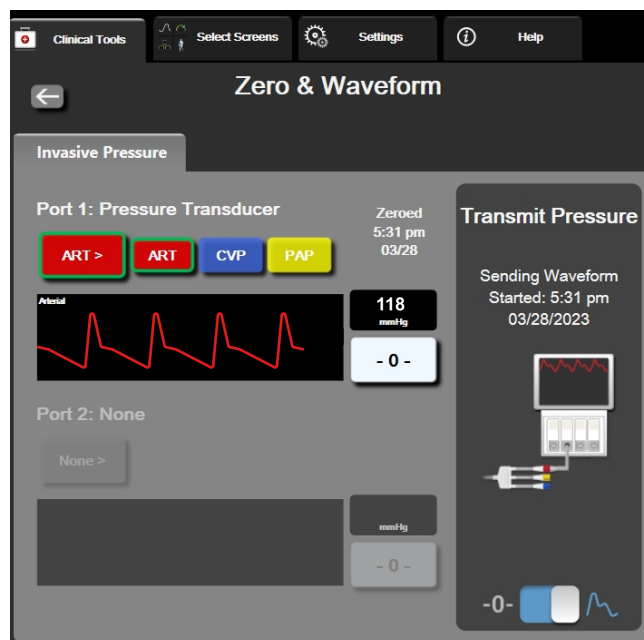

Figure 10-2: Zero & Waveform screen – Zero sensor and Pressure-Out
5. Toggle to the **Transmit Waveform** icon  to begin pressure signal output to the patient monitor. A "**Sending Waveform Started:**" message with the timestamp is displayed when the live waveform is being transmitted to the connected patient monitor. See Figure 10-2 on page 196.